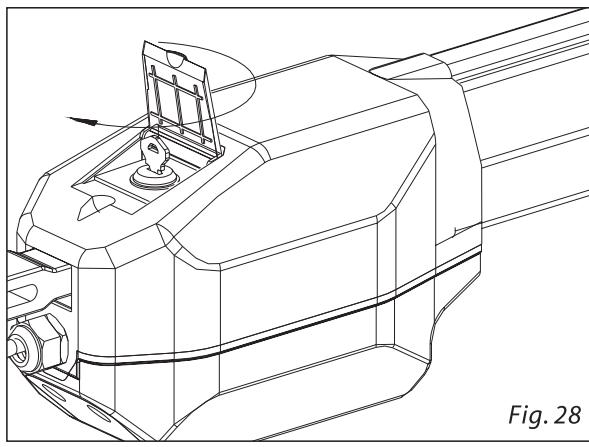

Fig. 28
- 3) Insert the key and turn it 90°, Fig.28